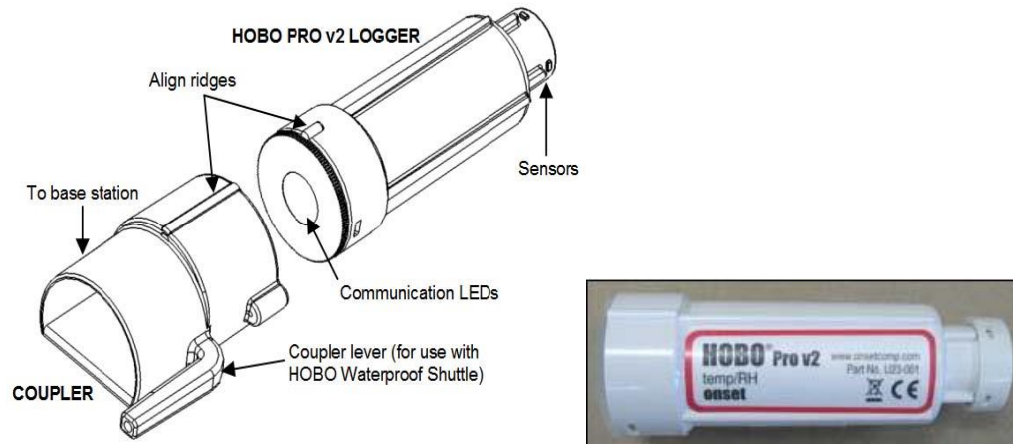

Figure 5-1. HOBO Pro v2 (part no. U23-001) data logger and coupler for downloading.
Cave environmental conditions can affect biological and chemical processes, can be altered by human activities and changing surface climate patterns, and often are linked to phenomena like ice accumulation/loss or the location and behavior of bats. This Standard Operating Procedure (SOP) provides guidance on measuring temperature and relative humidity (RH) using Onset Computing HOBO Pro v2 data loggers (HOBO U23-series; hereafter referred to as data loggers) (Figure 5-1). The data loggers will record data at hourly intervals in caves at both Lava Beds National Monument (LABE) and Oregon Caves National Monument and Preserve (ORCA).